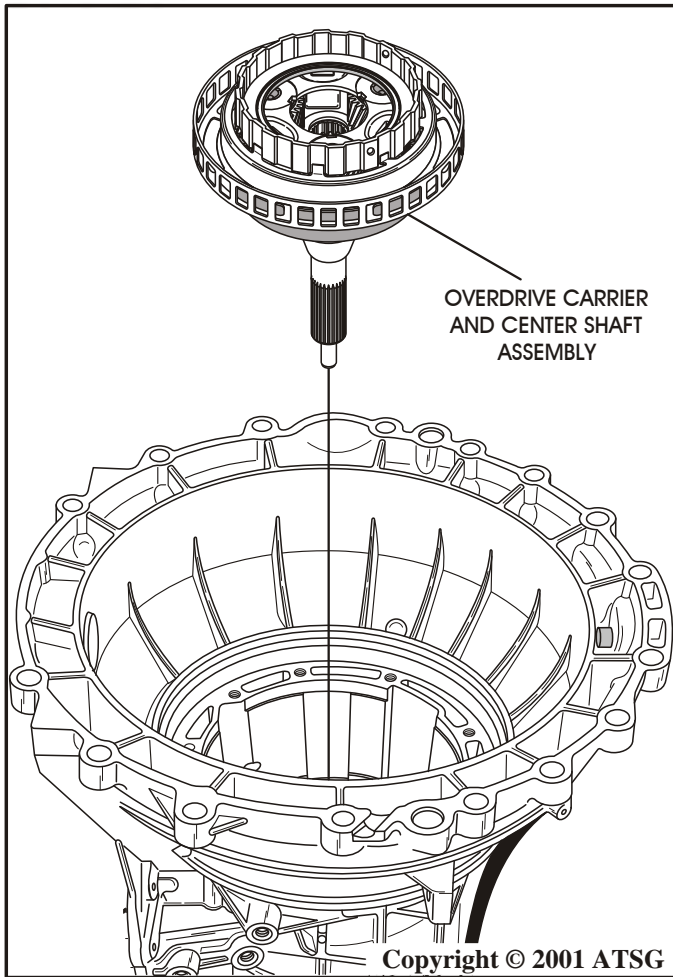

Figure 42
41. Remove the overdrive carrier and center shaft assembly, as shown in Figure 42.